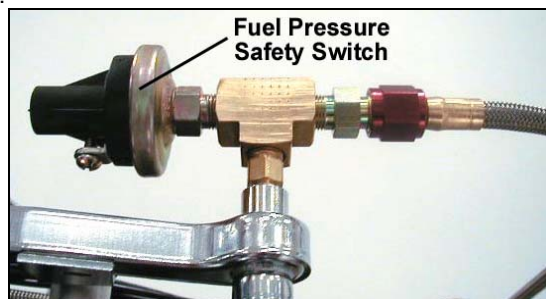

Figure 19
5. Install fuel pressure safety switch to the rear-facing outlet of the T fitting (Figure 19). Apply Teflon paste to the NPT threads of the fuel pressure safety switch.